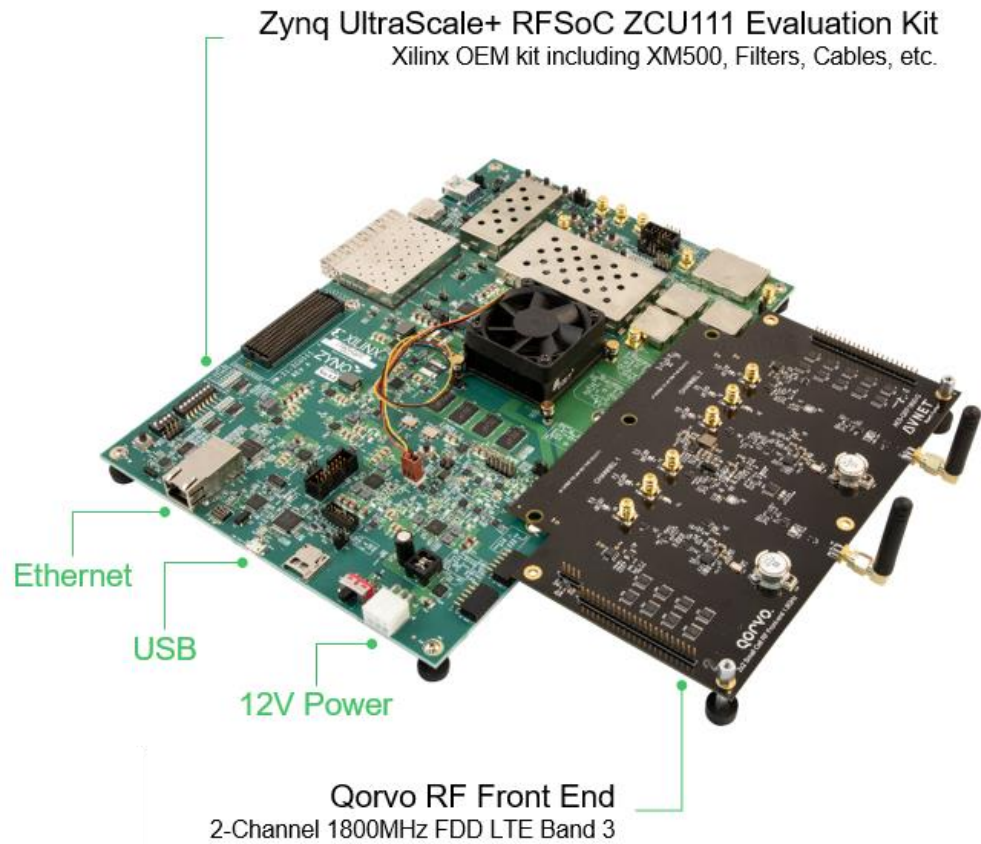

Figure 6 – Qorvo card mounted on ZCU111
5. Connect the Qorvo RF card, ZCU111, antennae, and cables as shown in Figure 6. Although no over-the-air transmission and reception is involved in this tutorial, the antennae provide convenient 50-Ohm termination to the PA.¹